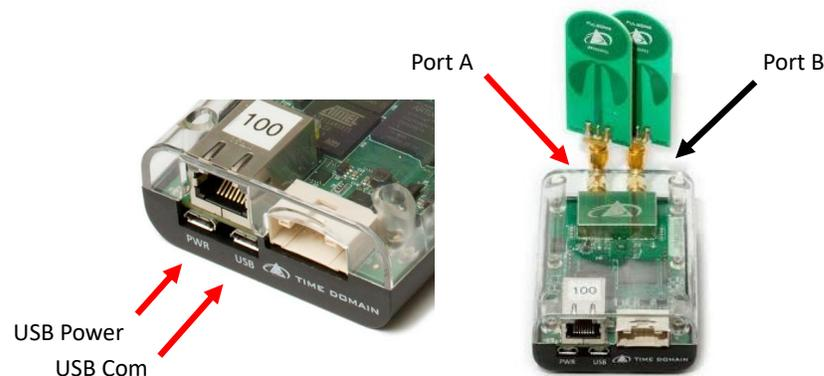

Fig. 5: P440 with both antennas connected and USB Power and COM ports identified
2. Attach the Broadspec antennas to both SMA port "A" and port "B" (the port A connector in line with the Ethernet connector; see **Figure 5**). The Broadspec antenna is omni-directional.